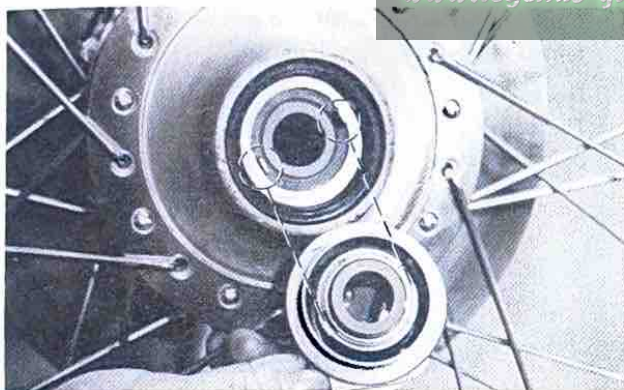

Fig. 15
8. Install the speedometer cable (7) and meter gear nut (8) on the left side of the front wheel. (Fig. 15)